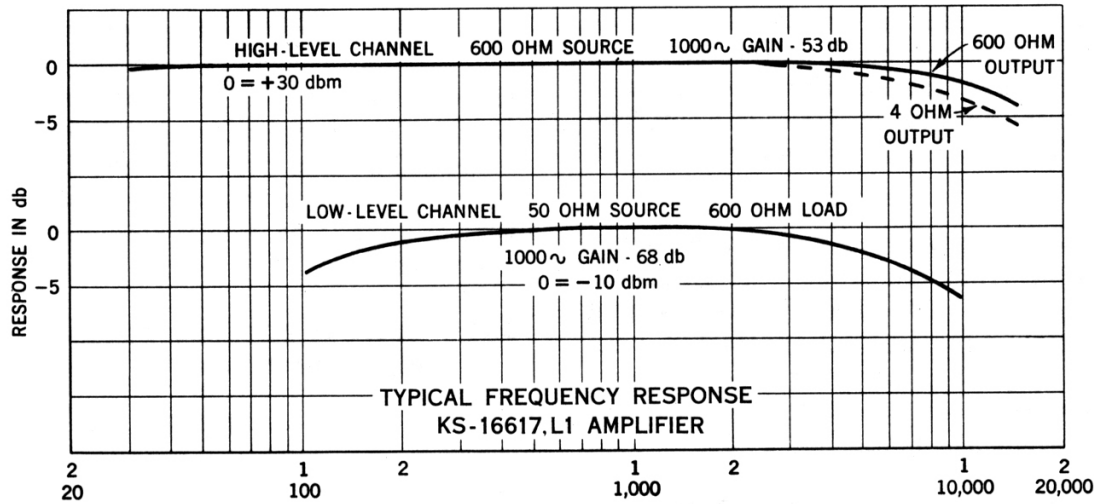

Fig. 3 – Frequency Response
See Fig. 3.
6.01 Fig. 3 shows the frequency response of the KS-16617, L1 Amplifier. The figure shows the characteristics of both the high-level and low-level channels.